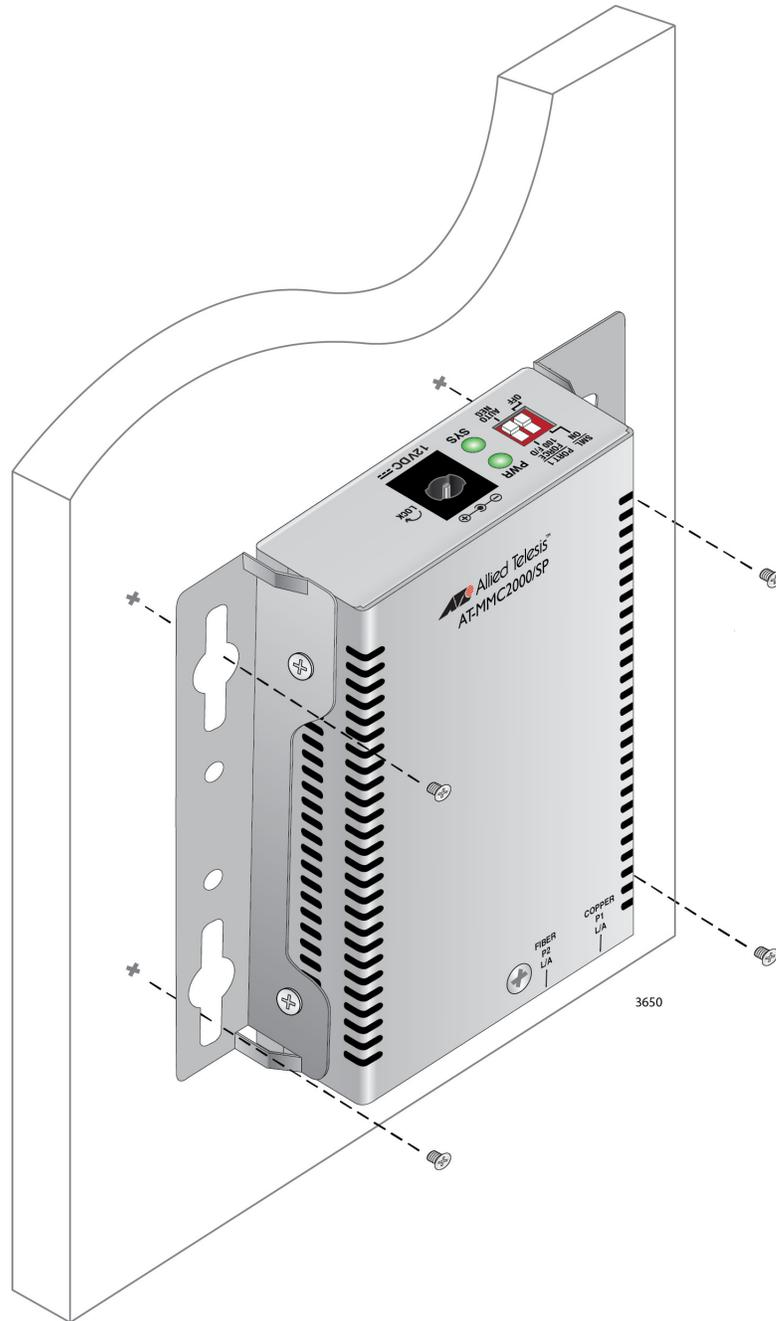

Figure 21. Securing the Media Converter to the Wall
5. Secure the media converter to the wall using four wall mounting screws (not provided). See Figure 21 on page 44.